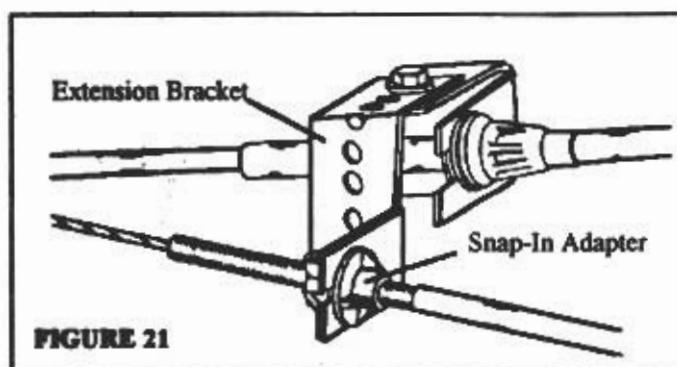
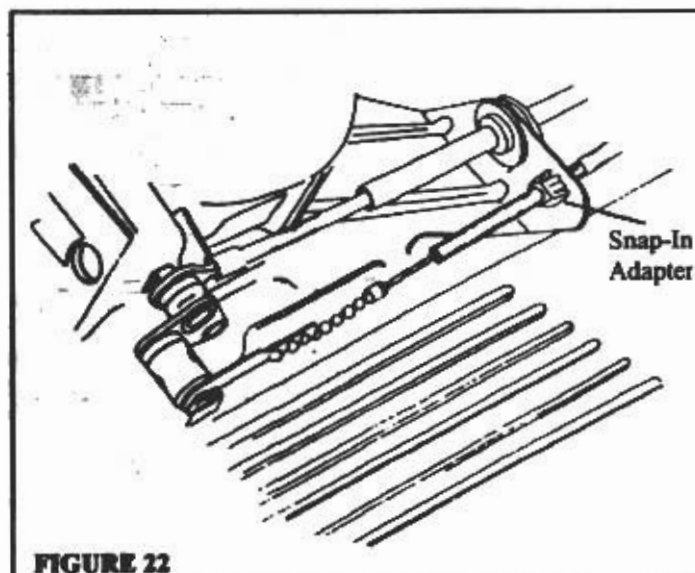

FIGURE 21
FIGURE 22
3. The Snap-In Adapter snaps into the square hole of the Extension Bracket (Figure 21) or snaps into an existing square hole on the vehicle – common on GM vehicles. (Figure 22)